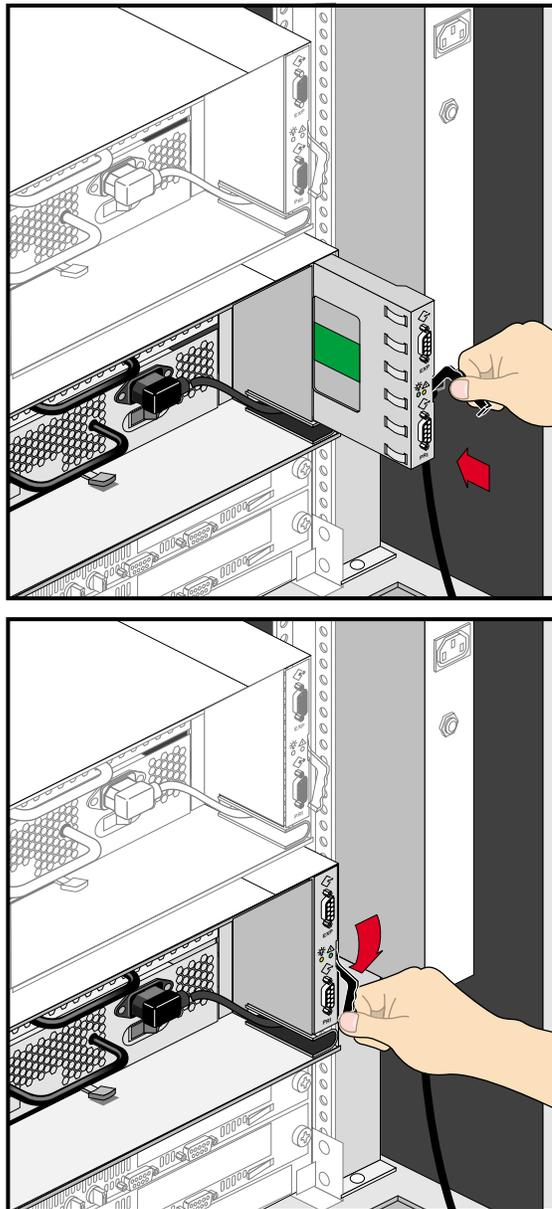

Figure 4-15 LCC Installation Example
8. Slide the LCC into the slot, as shown in Figure 4-15.